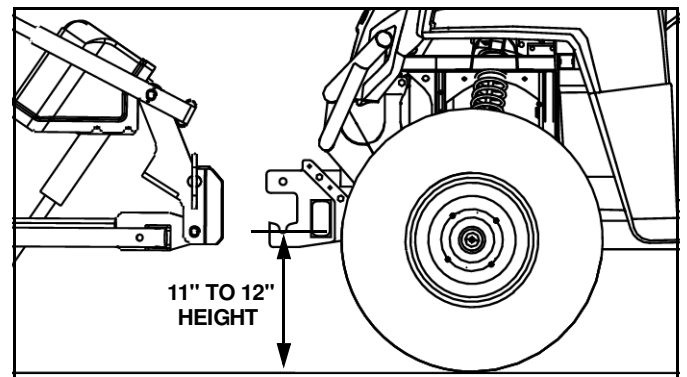

Figure 6
11. Adjust the UTV Mount (#1) on the machine to provide an 11" to 12" height between the lower pin slots and the ground. (See Figure 6.)